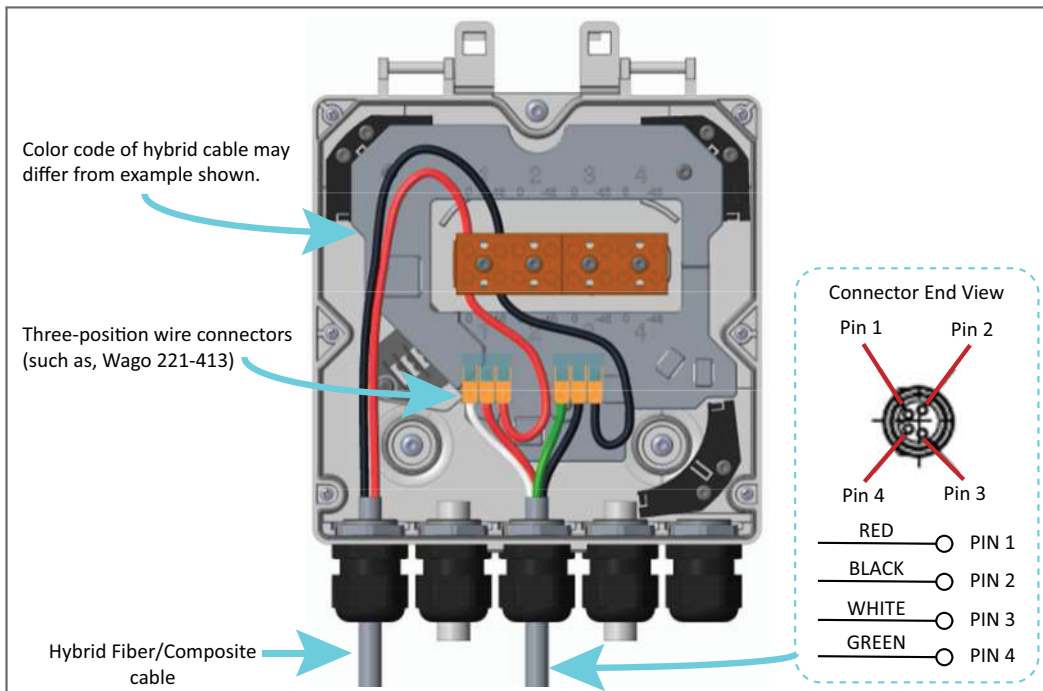

Figure 13. Wiring a Hybrid Fiber Splice Box for 2-Wire Power without LPS
- Refer to Table 14 and Figure 13 to wire a Hybrid Fiber Splice Box for 2-Wire power without an Limited Power Source (LPS).